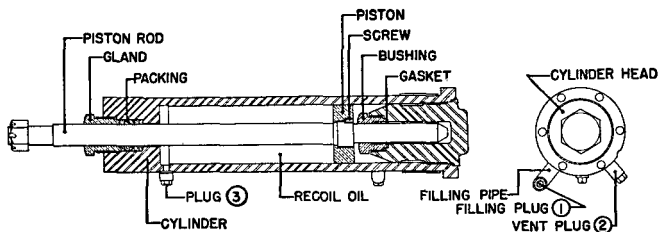

FIGURE 6.—Recoil cylinder.
■ 40. FILLING RECOIL CYLINDER (fig. 6).—Elevate gun to 80°. Remove filling plug (1) and vent plug (2) and fill recoil cylinder to overflowing, using filling funnel provided. Replace filling plug and vent plug.
■ 41. DRAINING RECOIL CYLINDER (fig. 6).—With gun at 0° elevation, place a receptacle under drain plug (3), and remove drain plug. If recoil oil does not flow freely, remove vent plug (2).